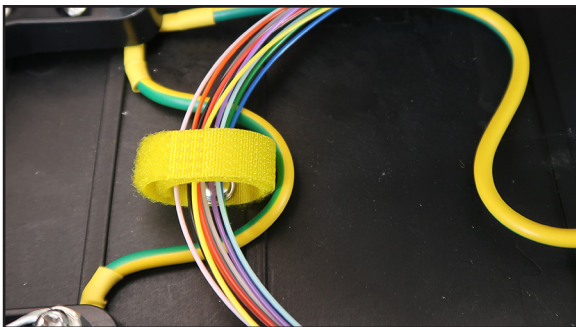

Figure 1-15: Manage cable with magic band tie
- 14 Manage cable with the magic band tie (Figure 1-15).